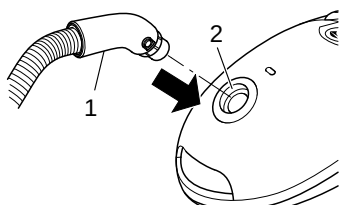

Fig.1
1. Push the end of the suction hose (Fig. 1/1) into the connection point (Fig. 1/2) of the cylinder vacuum cleaner until the lock audibly clicks into place.